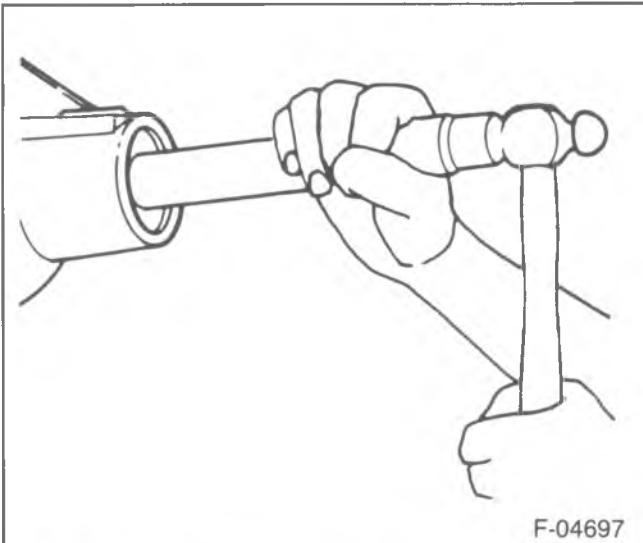

Figure 26—Front Pinion Bearing Cup Installation
1. Front pinion bearing cup (39) using J-8611-01 and J-8092 (figure 26).